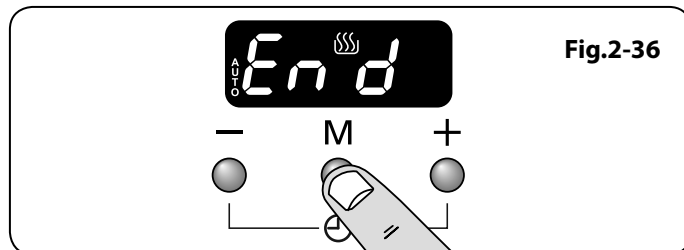
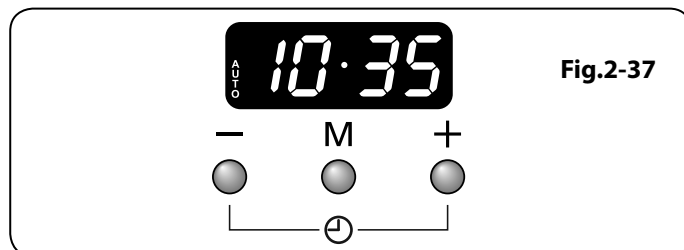

Fig.2-36
Fig.2-37
2. Press the mode [M] button until the display flashes (End) (Fig.2-36). Then set the 'stop time' using the [+] or [-] buttons. Current time will be displayed along with the word 'AUTO' (Fig.2-37).